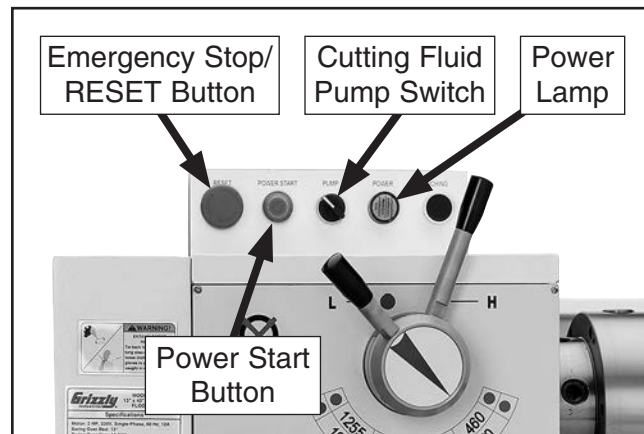

Figure 18. Control panel buttons used in test run.
4. Push Emergency Stop/RESET button on control panel (see **Figure 18**), and point coolant nozzle into chip pan.
8. Rotate Emergency Stop/RESET button clockwise until it pops out. The power lamp on the control panel should illuminate (see **Figure 18** on **Page 24**).
9. Push POWER START button shown in **Figure 18** on **Page 24** (it should illuminate), then move spindle lever down to start lathe. Top of chuck should rotate down toward front of lathe. Verify that machine is operating correctly.
15. Use cutting fluid pump switch on control panel to start pump (see **Figure 18** on **Page 24**), then open valve. Verify that cutting fluid flows from nozzle, then turn pump **OFF**.